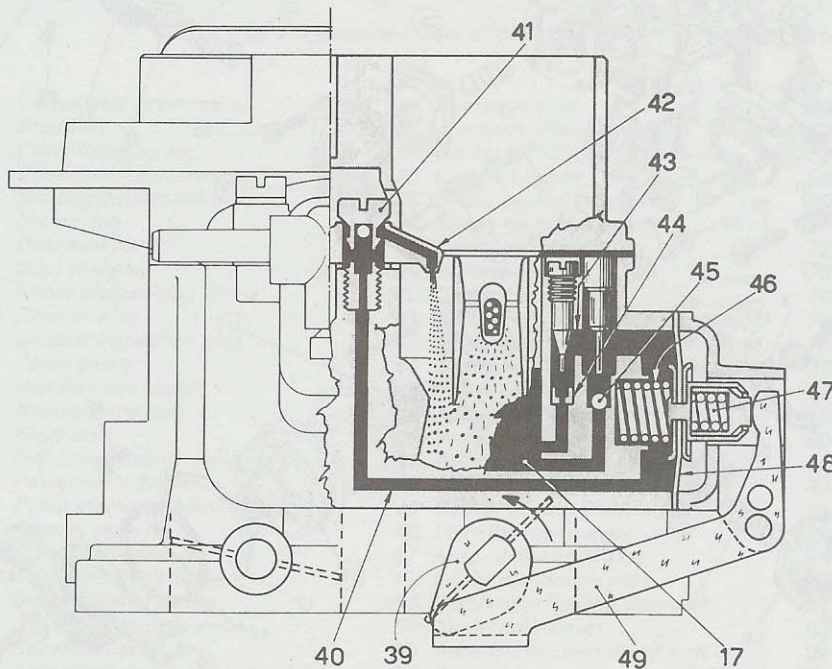

Fig. 7.7 Carburettor acceleration phase (Sec 3)
To provide the engine with a rich mixture when accelerating, the carburetor is provided with a diaphragm type acceleration pump which is operated by the primary throttle shaft and injects only into the primary venturi. Reference to Fig. 7.7 will show that when the primary throttle valve is closed, the accelerator pump diaphragm (48) draws fuel from the float